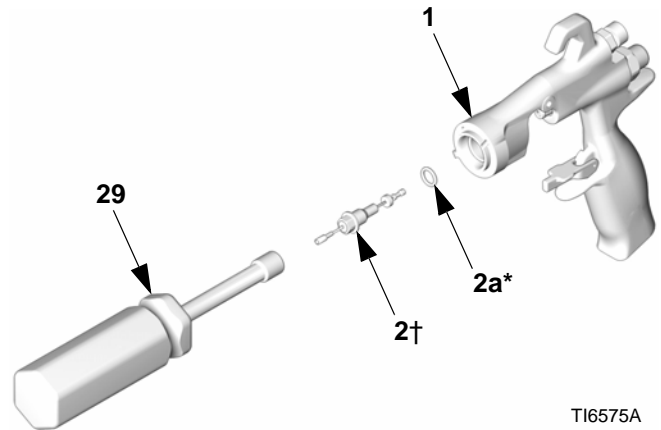
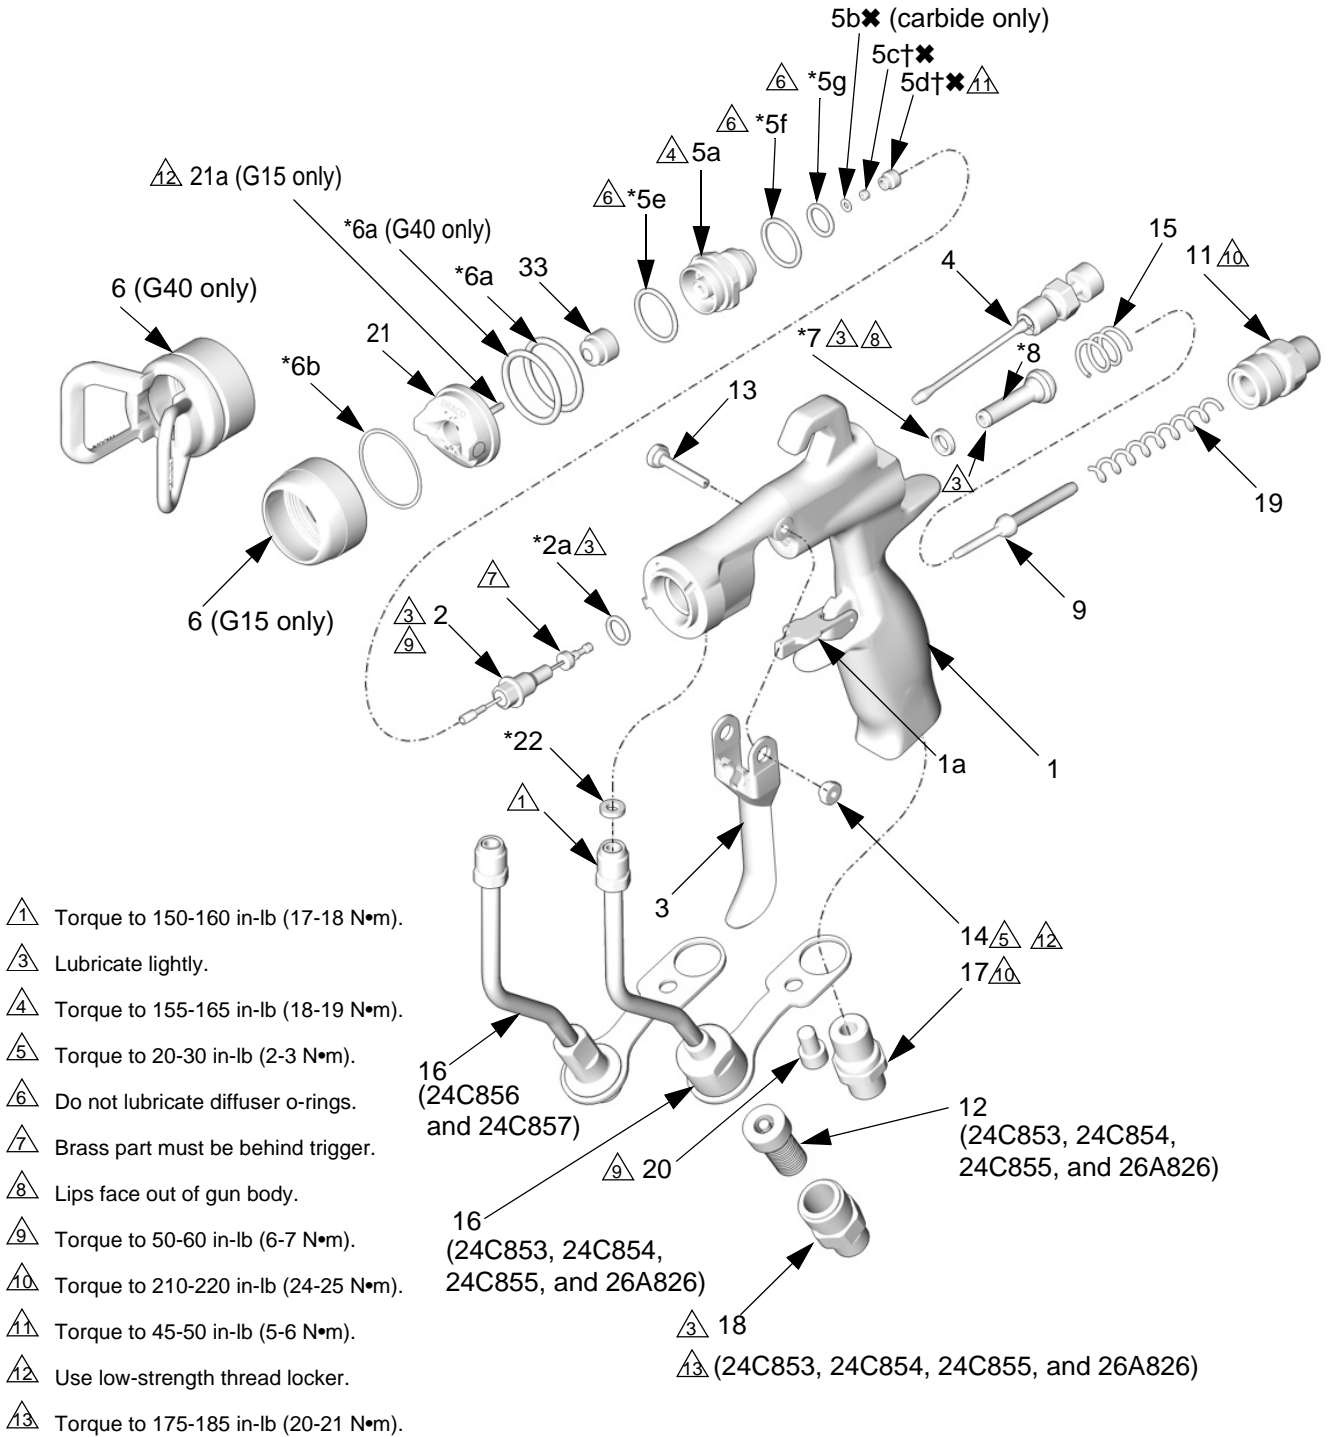

FIG. 42
FIG. 43
1. Install the tube gasket (22*) in the gun. Handtighten the fluid tube connector (C) into the gun's fluid inlet. Handtighten the air inlet fitting (17) and screw (20). Torque the fluid tube connector to 150-160 in-lb (17-18 N•m). Torque the air inlet fitting to 210-220 in-lb (24-25 N•m). Torque the fluid tube bracket screw to 50-60 in-lb (6-7 N•m). See FIG. 43.
2. Install the inline fluid filter (12) into the base of the fluid tube. Screw the fluid inlet fitting (18) into the base of the tube. Torque to 175-185 in-lb (20-21 N•m). See FIG. 43.
4. Lubricate the front end of the air valve assembly (8*). Gently slide the air valve assembly into the back of the gun, passing through the u-cup (7*), as far as it will go. Be careful not to damage the u-cup. See FIG. 43.
5. Carefully insert the thinner end of the shaft (9) into the air valve (8*).
6. Install the two springs (15 and 19). Screw the spring cap (11) into the back of the gun body. Torque to 210-220 in-lb (24-25 N•m).
7. Lightly lubricate the needle assembly o-rings and shaft where the packing slides. Be sure that the o-ring (2a*) is in place in the gun body (1).
8. Insert the fluid needle assembly (2) into the front of the gun. Use the nut driver (29) to screw the fluid needle assembly into the gun body (1) and torque to 50-60 in-lb (6-7 N•m). See FIG. 42.
9. Install the trigger (3), pivot pin (13), and nut (14). Use low strength thread locker and be sure that the brass piece of the fluid needle assembly (2) is behind the trigger. See FIG. 43. Lubricate both sides of the pivot pin where the trigger contacts the pin and lubricate the boss on both sides of the gun where the trigger contacts the gun body. Torque the nut to 20-30 in-lb (2-3 N•m).
10. Trigger the gun to pull the needle back while you screw the diffuser assembly (5) into the gun body (1) using the gun tool (30). Torque to 155-165 in-lb (18-19 N•m). When properly tightened, the flange will bottom out on the gun.
11. Attach the retaining ring (6), air cap (21), and spray tip (33).